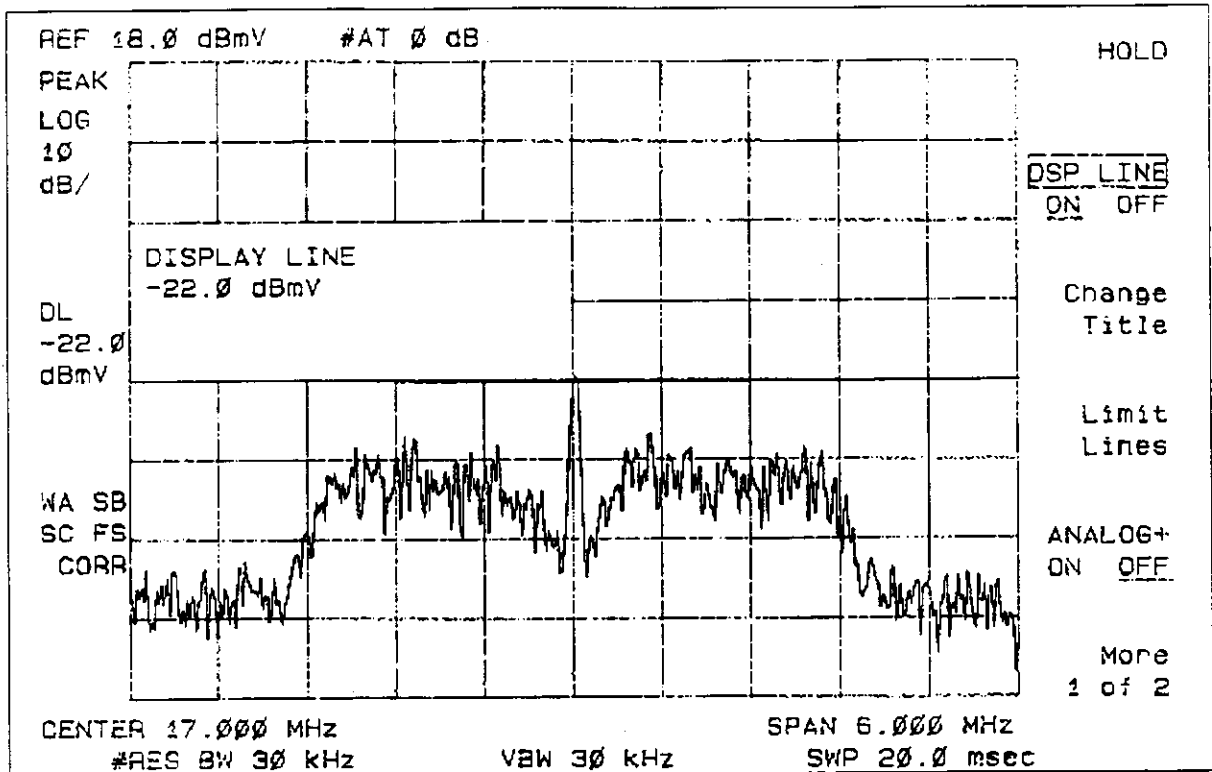

Figure 5-17. HIC Upstream BPSK Level Measurement
2. Set the Spectrum Analyzer as follows: <ul style="list-style-type: none"> • Center Frequency (CF): Mid-frequency between Upstream Primary and Diversity pedestals CF. • Span: 6 MHz; 30 kHz RBW • Scale: 10 dB/div (2 dB/div for CMI Upstream Pedestal Measurement) • Units: dBmV (75 Ω)
4. Adjust CMI Upstream Control Attenuator for CMI in question. <ul style="list-style-type: none"> • Select CMI Group Control for sector in question. • Disable Autostats, US Autogain and DS Autogain on all CMIs on the sector • Select each CMI and select Get Status on CMI CONTROL PANEL: BPSK tone for selected CMI can be seen on Spectrum Analyzer. • Select Upstream Power Control at CMI CONTROL PANEL and adjust Control Tone ATTN until the BPSK level is -22 dBmV. • Select CMI Group Control and re-enable Autostats, US Autogain, and DS Autogain for all CMIs on sector. 	See Figure 5-17.